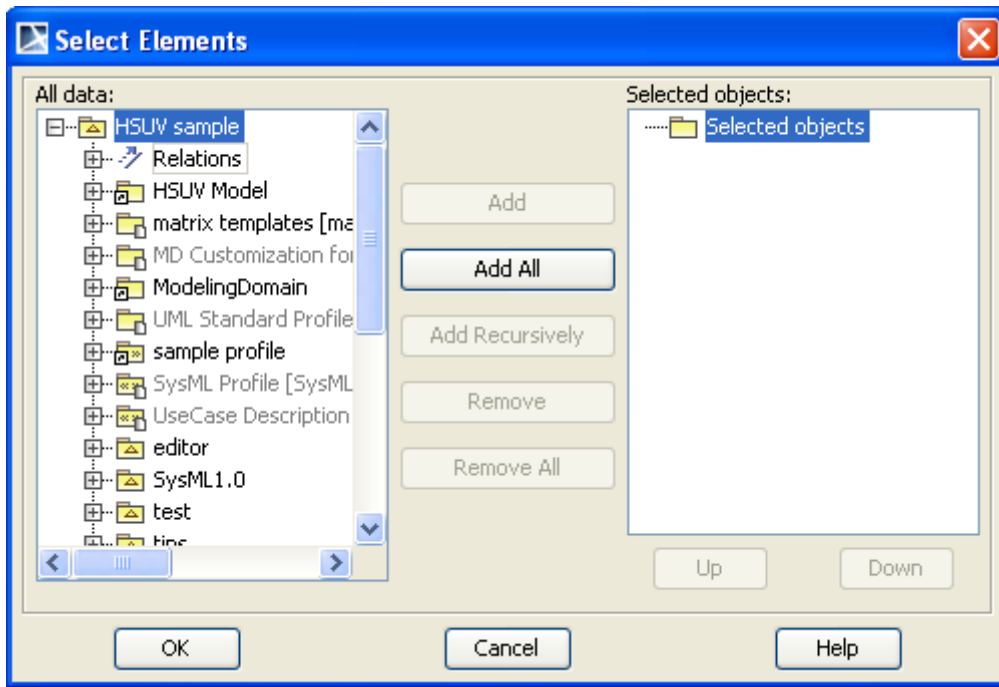

Figure 204 -- Select Elements Dialog
5. If you have selected **Validation Selection**, click the browse button ... to open the **Select Elements** dialog. Add elements to to the **Selected objects** pane using buttons in the middle of the dialog (Figure 204). Only the element(s) listed in the **Selected objects** pane will then be validated (Figure 204). When all required elements are selected, click **OK**.